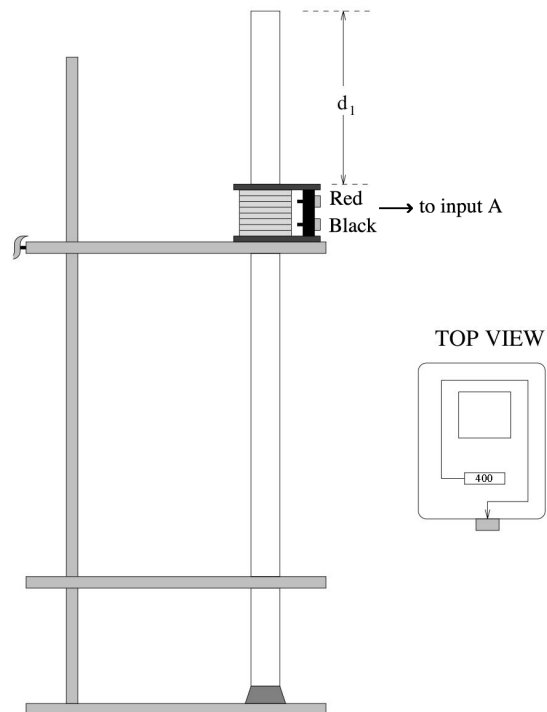

Figure 4: The setup
12. In the “TOP VIEW” diagram in Fig. 4, the box labelled “400” is the red input, and the small dark rectangle is the black input. When the North pole of the magnet is falling, and is inside the coil, is the induced current in the coil moving from red to black, or from black to red? Does this give a positive or negative voltage? Does this agree with the direction of your first peak?